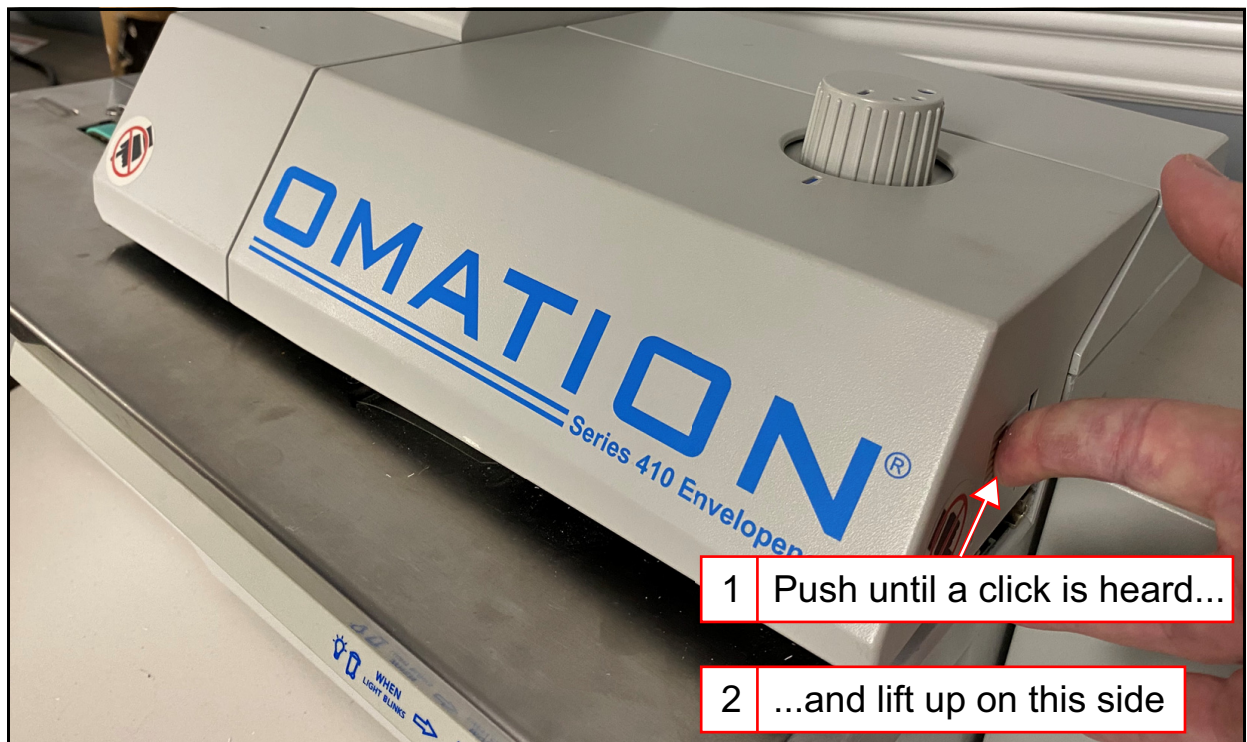

Figure 4-1: Cover catch release button
3. Press the catch release button on the right side of the cover until a “click” is heard, and lift the right side (Figure 4-1).